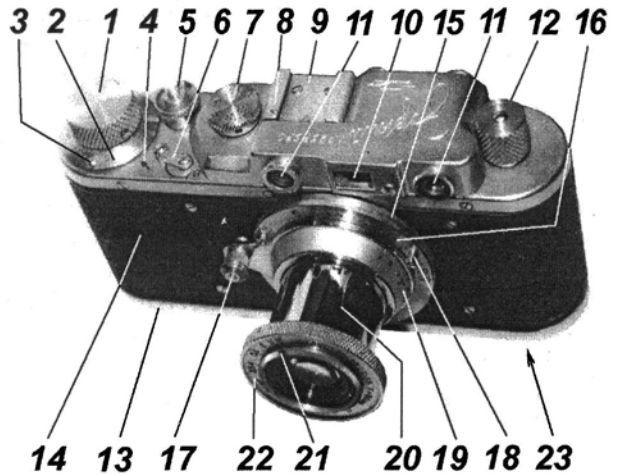

Fig. 1
(fig. 1).
5. Replace the baseplate 13 (fig 1), press it and twist the lock key 23 clockwise by half a turn. The arrow on the key will now point to «ЗАКРЫТО» = "closed". Check that the baseplate is properly closed.
exposures. Check if film has been properly loaded-when correct, the rewind knob 12 (fig 1) should turn.
transport sprocket where it is in contact with it. Film movement will be stopped as the sprocket teeth will just rotate where the film perforations are torn. This error is easy to detect by the absence of any movement in the film rewind knob 12 (fig 1) and by the rustle associated with moving film.
1. Press the shutter release button 5 (fig 1). Cap the lens.